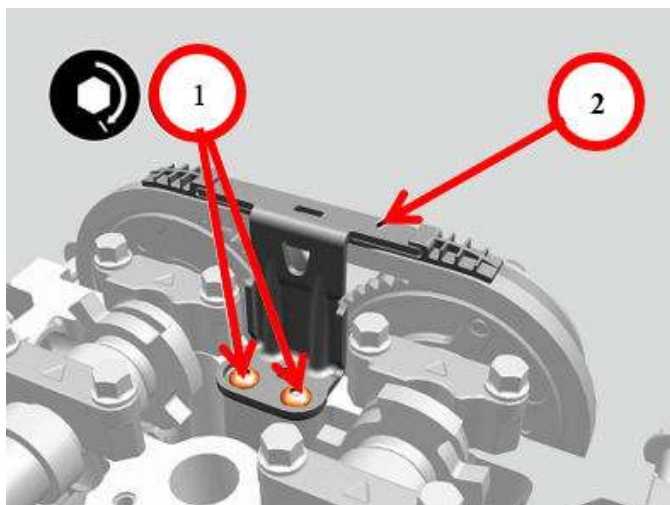

Fig. 3
5. Put the **NEW** cylinder head side fixed tensioner pad snubber in place and tighten the fixing screws to 0.9 ± 0.1 daNm (90 ± 0.1 cN) Fig. 3.